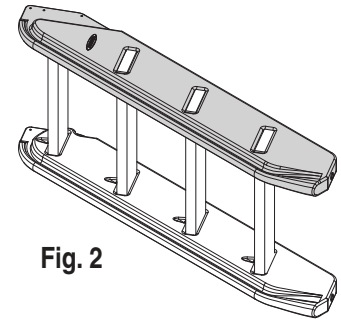

Fig. 2
3. Insert the right (R) step side rail on top of the existing boards until the standard boards are flush with the outside of the side rail. (Fig. 2)
6. Use the anchor as a drill guide and drill a ⅜" hole completely through the Climbing Wall. Attach Climbing Wall to anchor with one ⅜" x 1¼" hex bolt, two ⅜" washers and one ⅜" lock nut provided in the anchor kit. (Fig. 2)
4. Secure both ends with staples provided (2 each end). (Fig. 2)